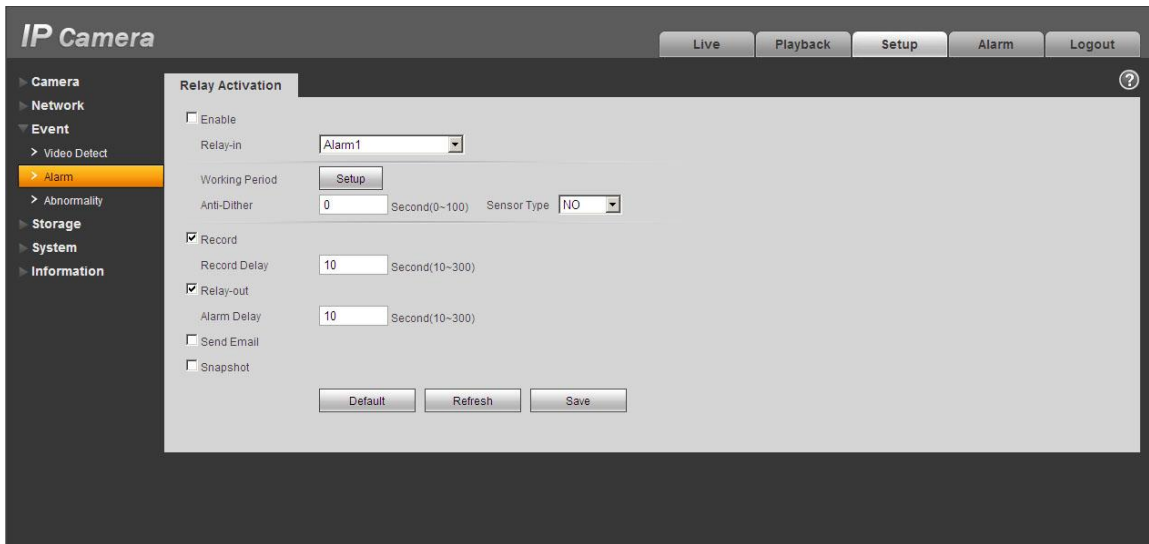

Figure 2-4 Alarm
The alarm interface is shown as in Figure 2-4. Please follow the steps listed below for local alarm input and output connection.
3) Open the Web, go to the Figure 2-4. Please set the alarm input 01 port for the first channel of the I/O cable (No.3 pin). The alarm input 02 is for the 2nd channel of I/O cable (No.4 pin). Then you can select the corresponding type (NO/NC.)
Secure the screw with inner hex wrench after adjustment. See Figure 2-4.